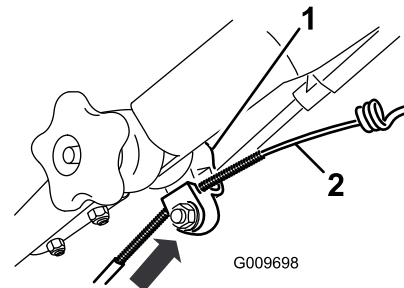

Figure 44
**Note:** You can place a ruler against the upper side of the black cable mount and measure how far the upper end of the cable jacket moves (Figure 44).